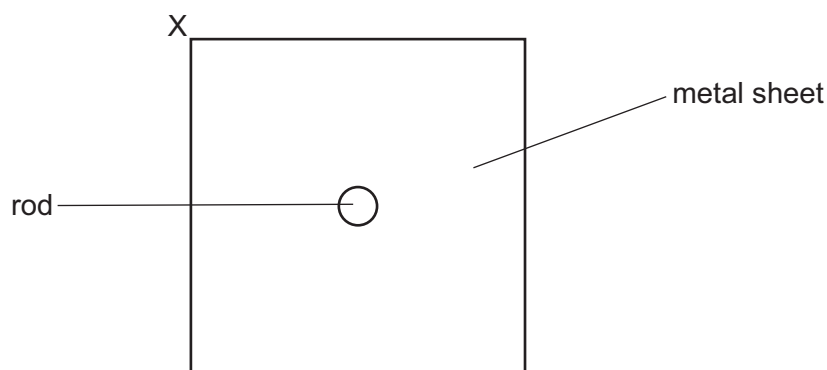

Fig. 2.3
- (c) When a torque of 3.3 Nm is applied to the rod, the sheet is held in equilibrium with two of its edges horizontal, as shown in Fig. 2.3. Point X is at the top-left corner.
- (e) Use the answer in (b) and the information in (c) and (d) to determine the position of the centre of gravity of the sheet. Indicate this position on Fig. 2.3 with a point labelled Y. [2]